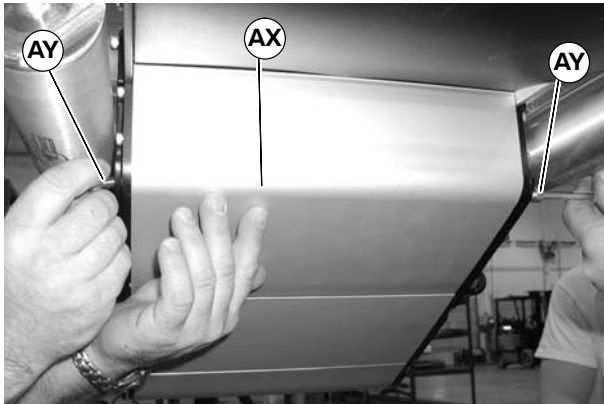

Figure 88
2. Temporarily support idler guard assembly (AX of Figure 88). Remove screws (AY).